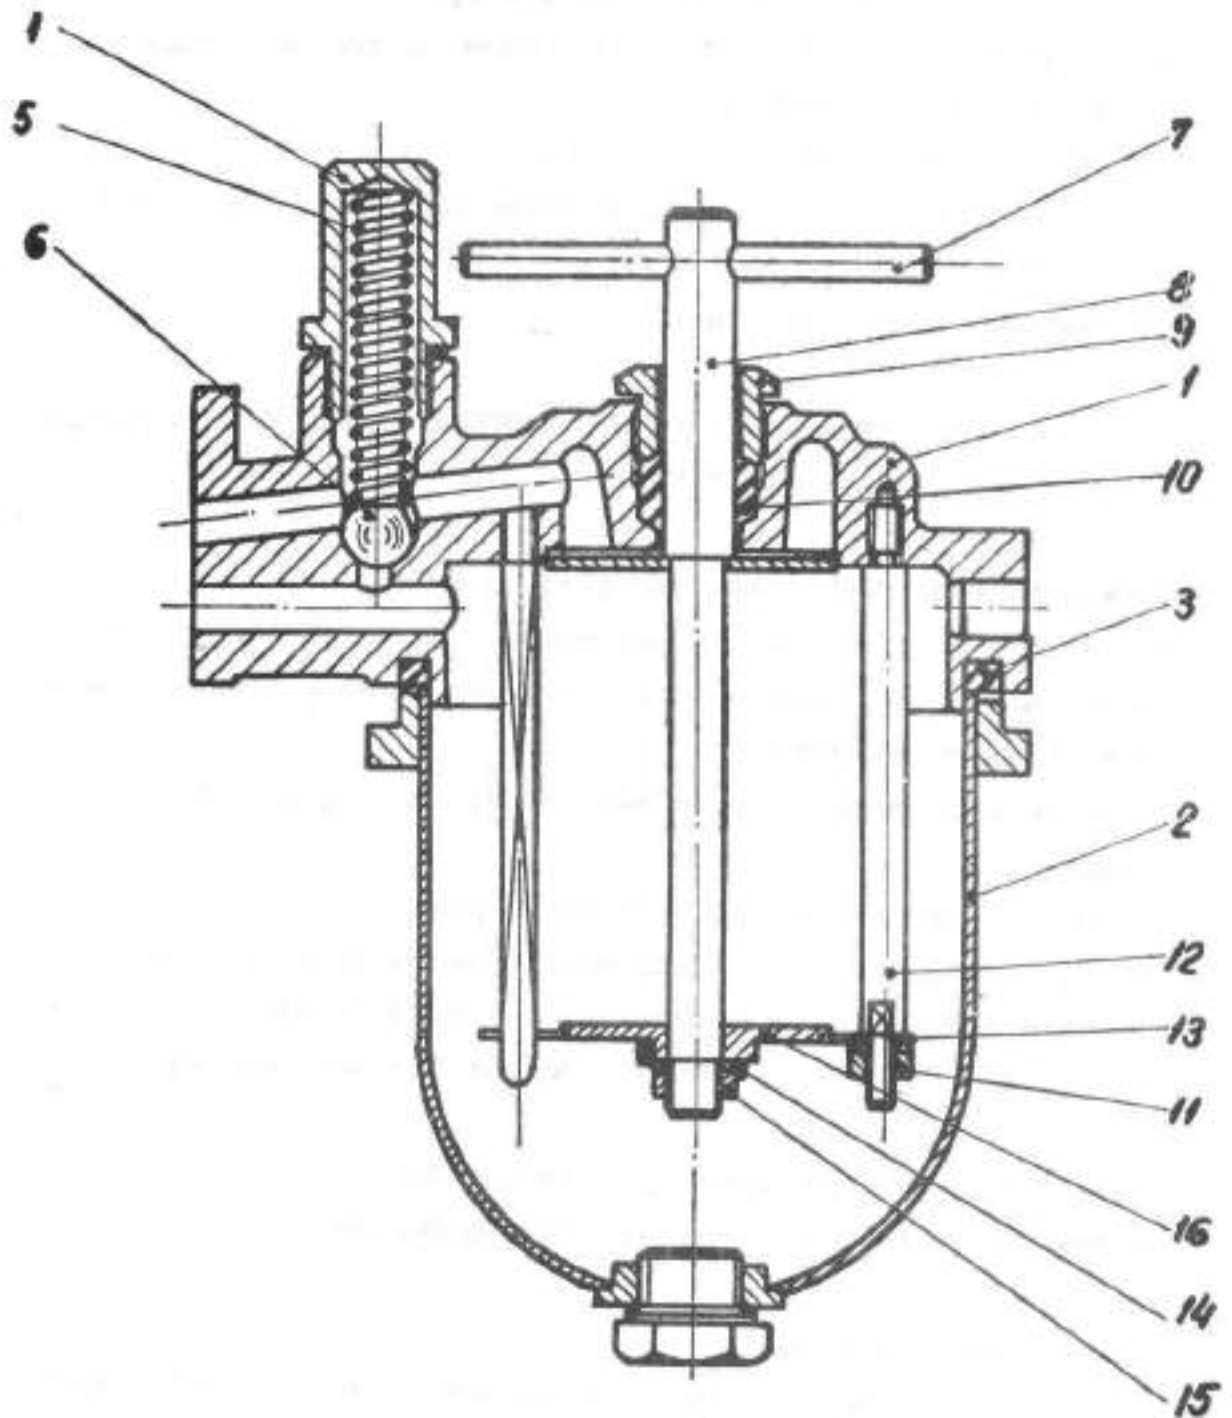

Fig. 4. 18. SECTION OF ROUGH OIL FILTER.
- Take down fine oil filter (1) from intermediate support (3) - see fig. 4. 16. -
- Remove from intermediate support rough oil filter (2), together with its gasket.
- Dismantle rough oil filter as follows: (see fig. 4. 18)
- Unscrew the four bolts, fastening the filter sediment bowl (2) on filter body (1).
- Remove sealing gasket (3).
- Remove, by unscrewing, shorting pressure control valve cap (4) and remove valve spring (5) and valve ball (6).